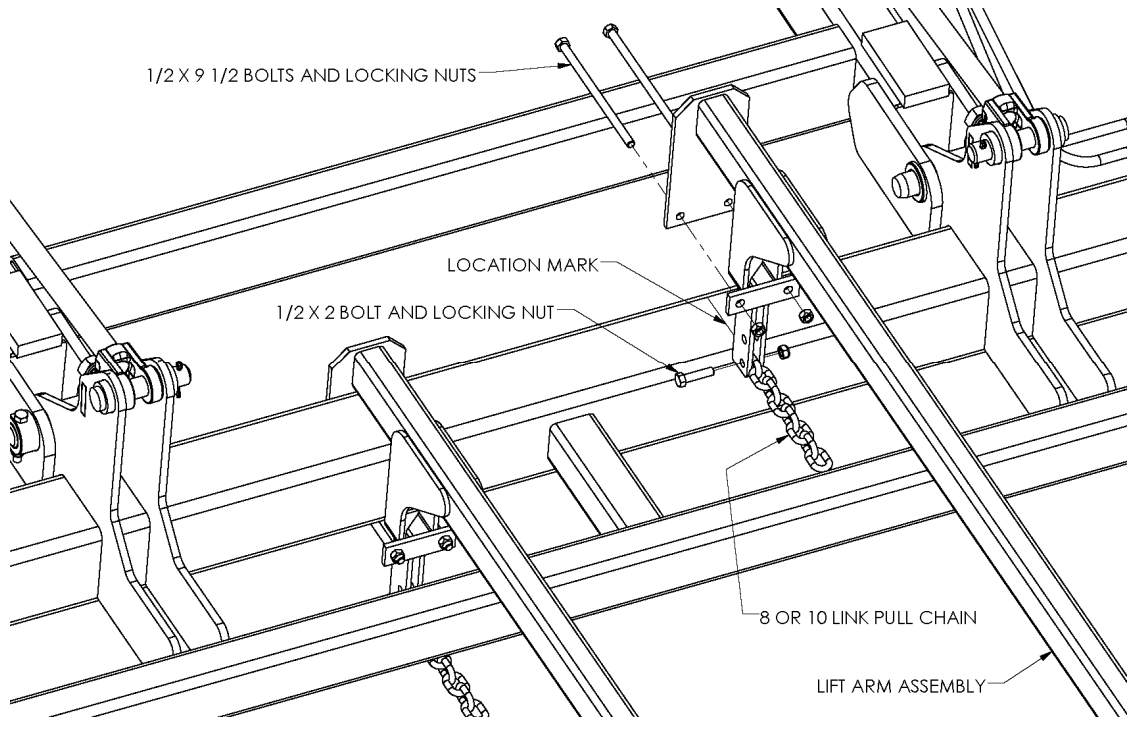

Figure 14
2. Center a lift arm on each of these marks and secure using two 1/2" x 9 1/2" bolts, lock washers, and hex nuts for each lift arm. Refer to Figure 14.
3. Bolt an 8 or 10-link pull chain in between each of the lift arm pull points. (10-link for 8-bar harrow sections; 8-link for all other configurations.) Use 1/2" x 2" bolts, lock washers, and hex nuts. Refer to Figure 14.